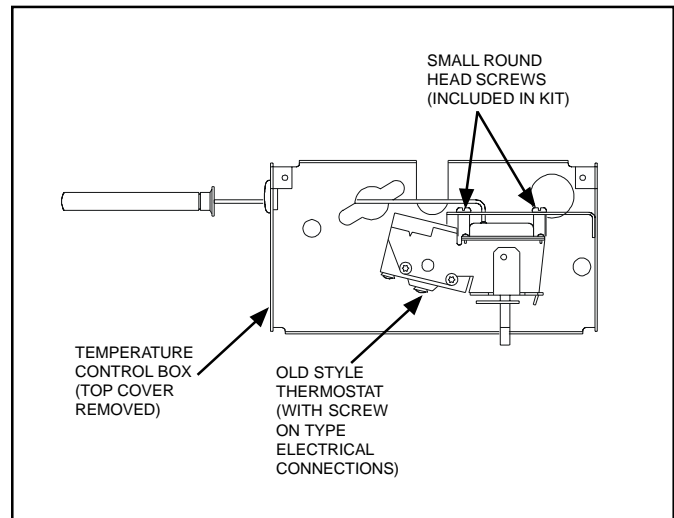

Figure 4. Old Style Thermostat Mounting to Welded Bracket Assembly (viewed from top of box).
3. Use the small slotted round head screws provided in the kit to mount the thermostat to the bracket that is welded to the inside of the new temperature control box. (See Figure 4).